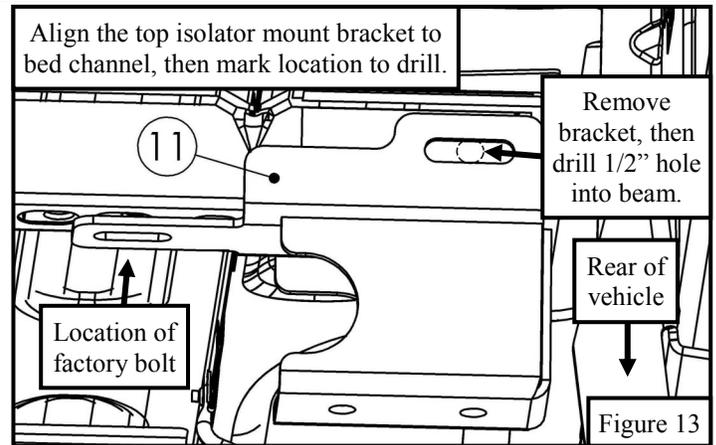

Figure 13
8. On either side of the vehicle, directly behind the cab, underneath the bed locate the bed channel that mounts the bed to the frame. There will be 2 pre-existing bolts. Remove these two bolts. Locate (1) top isolator mount bracket (Item 11) and align it to the beam and mark location to drill. Drill location using 1/2" drill bit. See **Figure 13**.